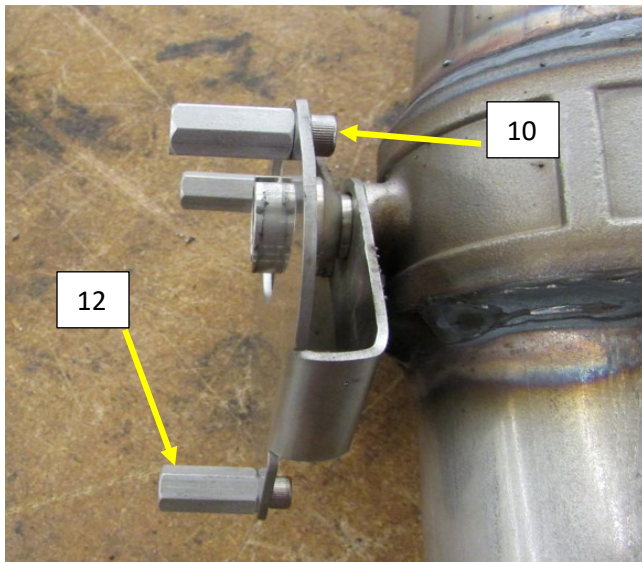

Figure.7
15. Preassemble the $\frac{3}{4}$ " standoffs (12) on to the mounting plate of the Flowmaster Exhaust Valve using the $\frac{1}{4}$ " long 10-32 screws (10) -apply a small amount of blue thread locker to the threads of the screws and tighten. **Fig.7**